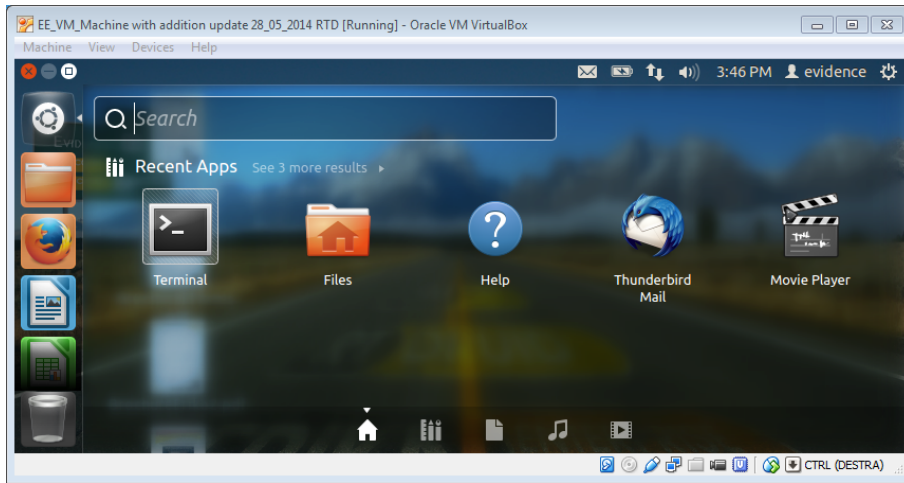

Figure 4.1: Open a terminal.
1. Open a Terminal window as shown in Figure 4.1.